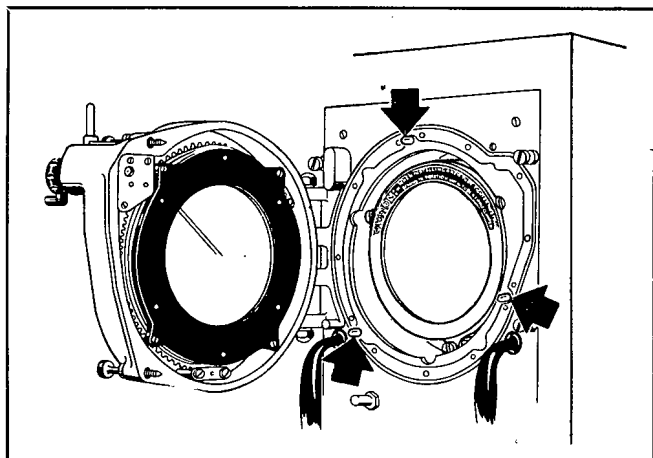

Figure 5-13. Dial Lamps in Geared Cursor
a. To replace the dial lights behind the cursor assembly on the PPI Indicator, unscrew the two large thumbscrews on the right-hand side of the cursor frame. Swing the hinged assembly away from the panel. This exposes the lamps and they can easily be replaced. See Fig. 5-13.